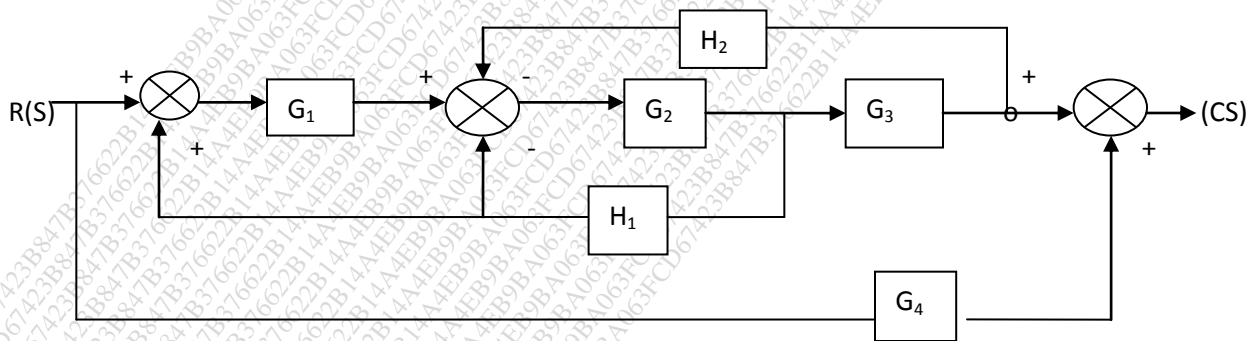

Fig. 1
Q.2 a) Obtain the close loop transfer function $C(S)/R(S)$ of the system as shown in fig 1. 08